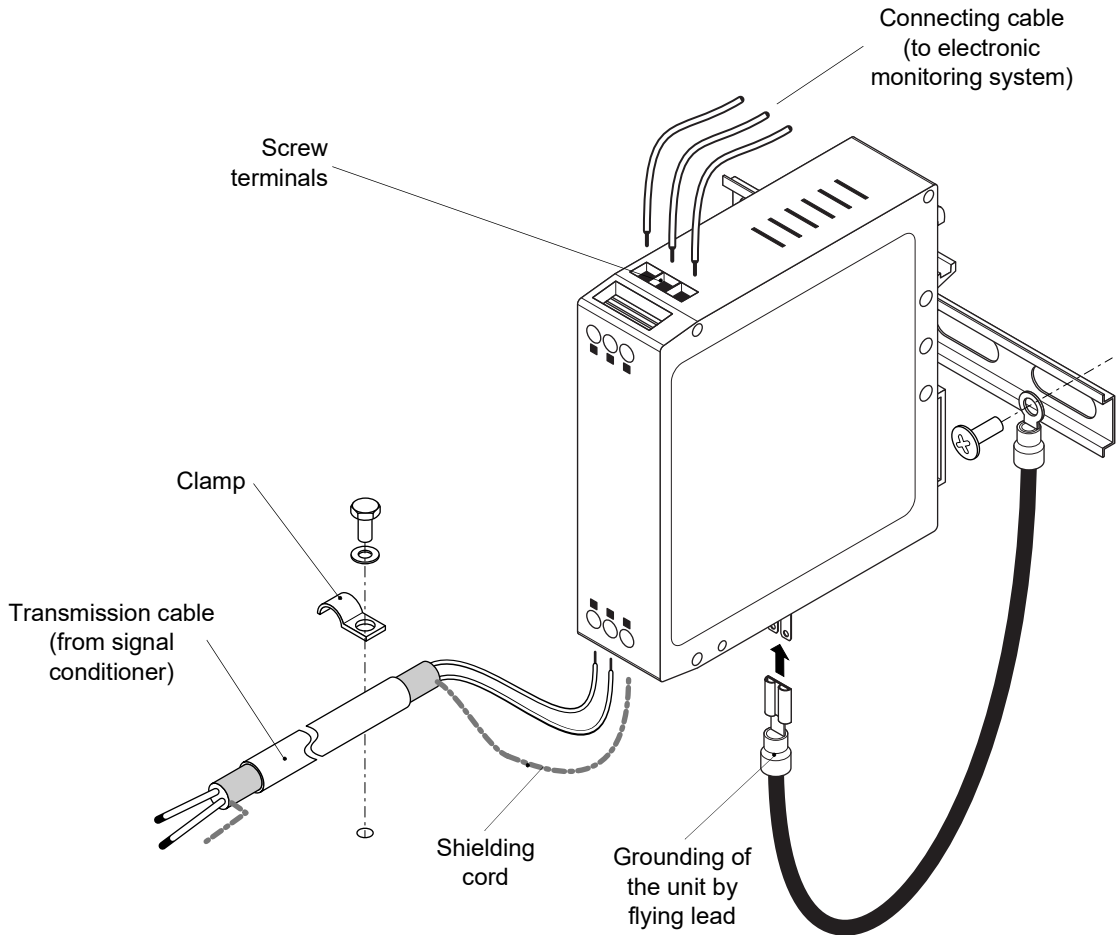

Figure 5-3: A GSI124 galvanic separation unit
A GSI124 galvanic separation unit is generally mounted in an industrial housing, rack or cabinet. The transmission cable from the sensor-side circuitry and the connecting cable to the monitor-side circuitry are connected to the GSI124 using screw terminals (see Figure 5-3).
- 2- Identify each wire for both the transmission cable from the sensor-side and the connecting cable to the monitor-side that are connected to the GSI124. See Figure 5-3 and use Table 5-1 to record the number and/or colour for each wire.
- 5- Disconnect the grounding. That is, disconnect the black flying lead terminated with a crimp from the underside of the GSI124 and then remove this lead from the DIN rail, as it is not required by the GSI127 (see Figure 5-3).